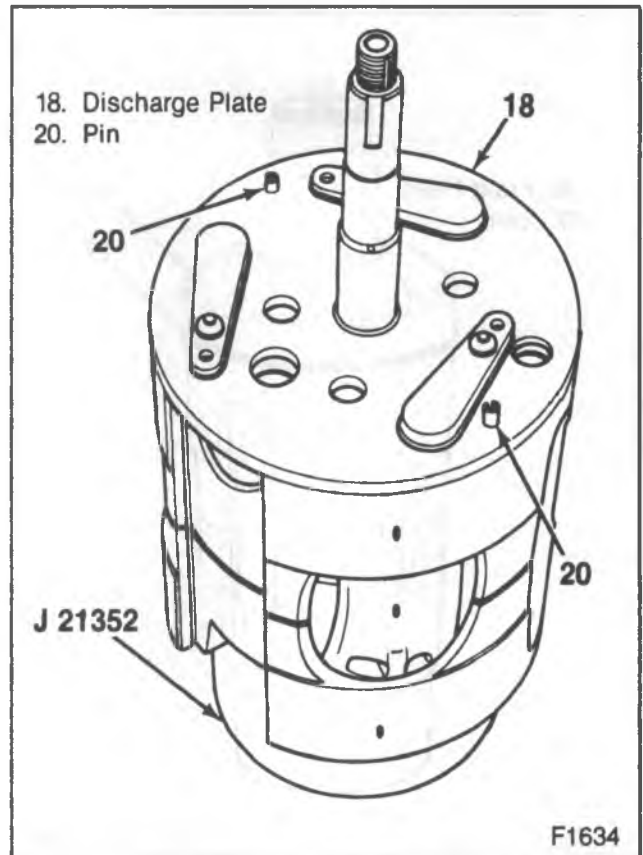
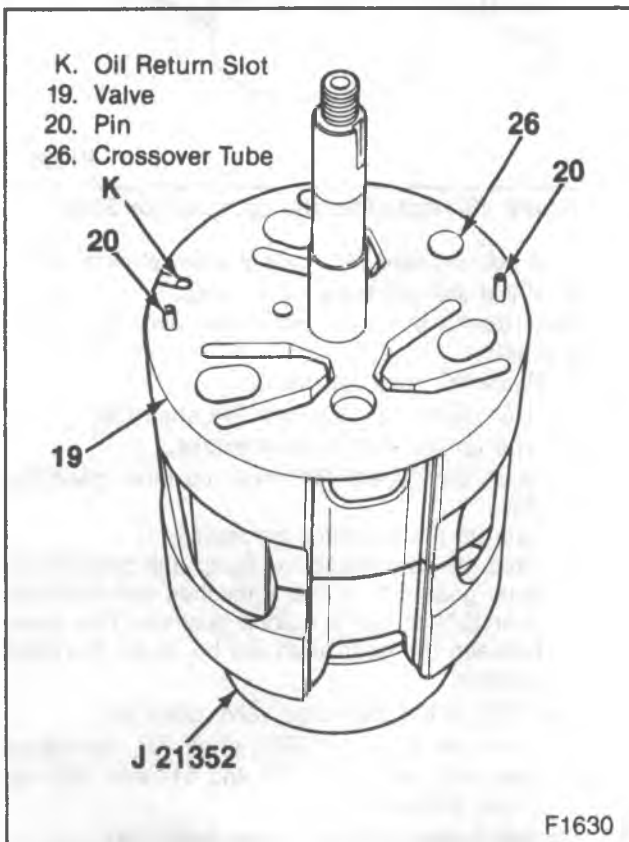
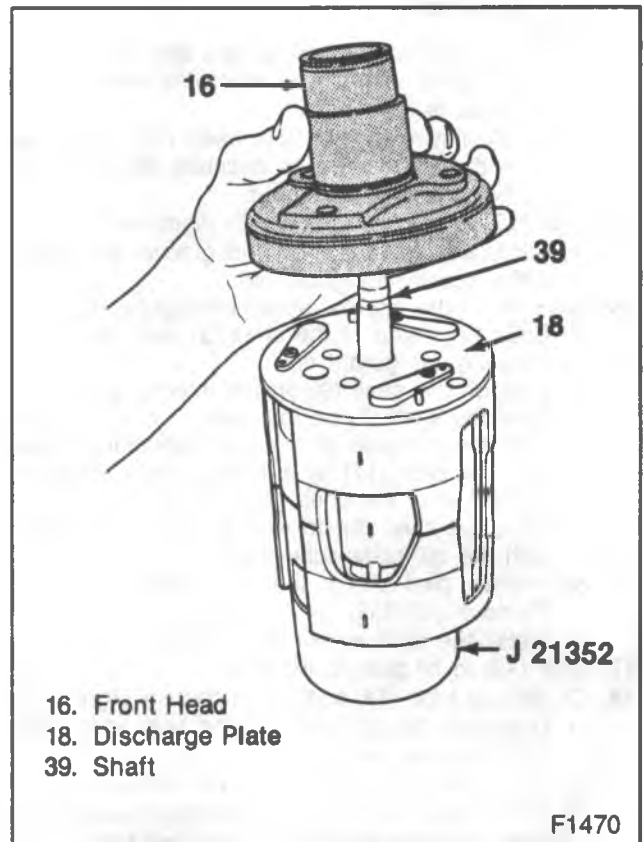

Figure 45—Installing the Front Discharge Valve Plate
Figure 44—Installing the Front Suction Reed Plate
Figure 46—Installing the Front Head
10. Dowel pins (20) to the front head (figure 44).
11. Front suction reed plate (19) to the front cylinder half (29) (figure 44).
- Align the dowel pins (20), suction ports, oil return slot and discharge cross-over tube (26).
12. Front discharge valve plate (18) (figure 45).
- Align the holes with the dowel pins (20) and the openings in the front suction reed plate (18). The front discharge plate (18) has a large hole in the center.
13. Front head (16) (figure 46).
- Determine the position of the front head (16) in relation to the dowel pins (20).
- Mark the position of the dowel pins (20) on the sides of the front head (16) and on the sides of the internal assembly with a grease pencil.
- Lower the front head (16).